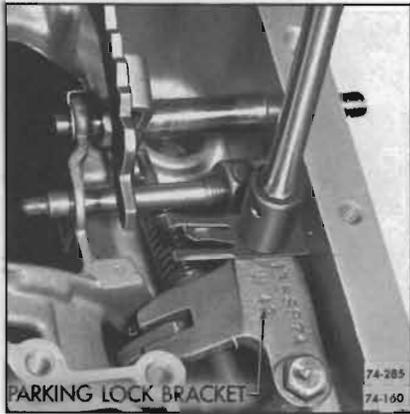

Figure 74-285
10. Install parking bracket to transmission case. Torque bolts to 8-12 lb. ft. torque. See Figure 74-285.